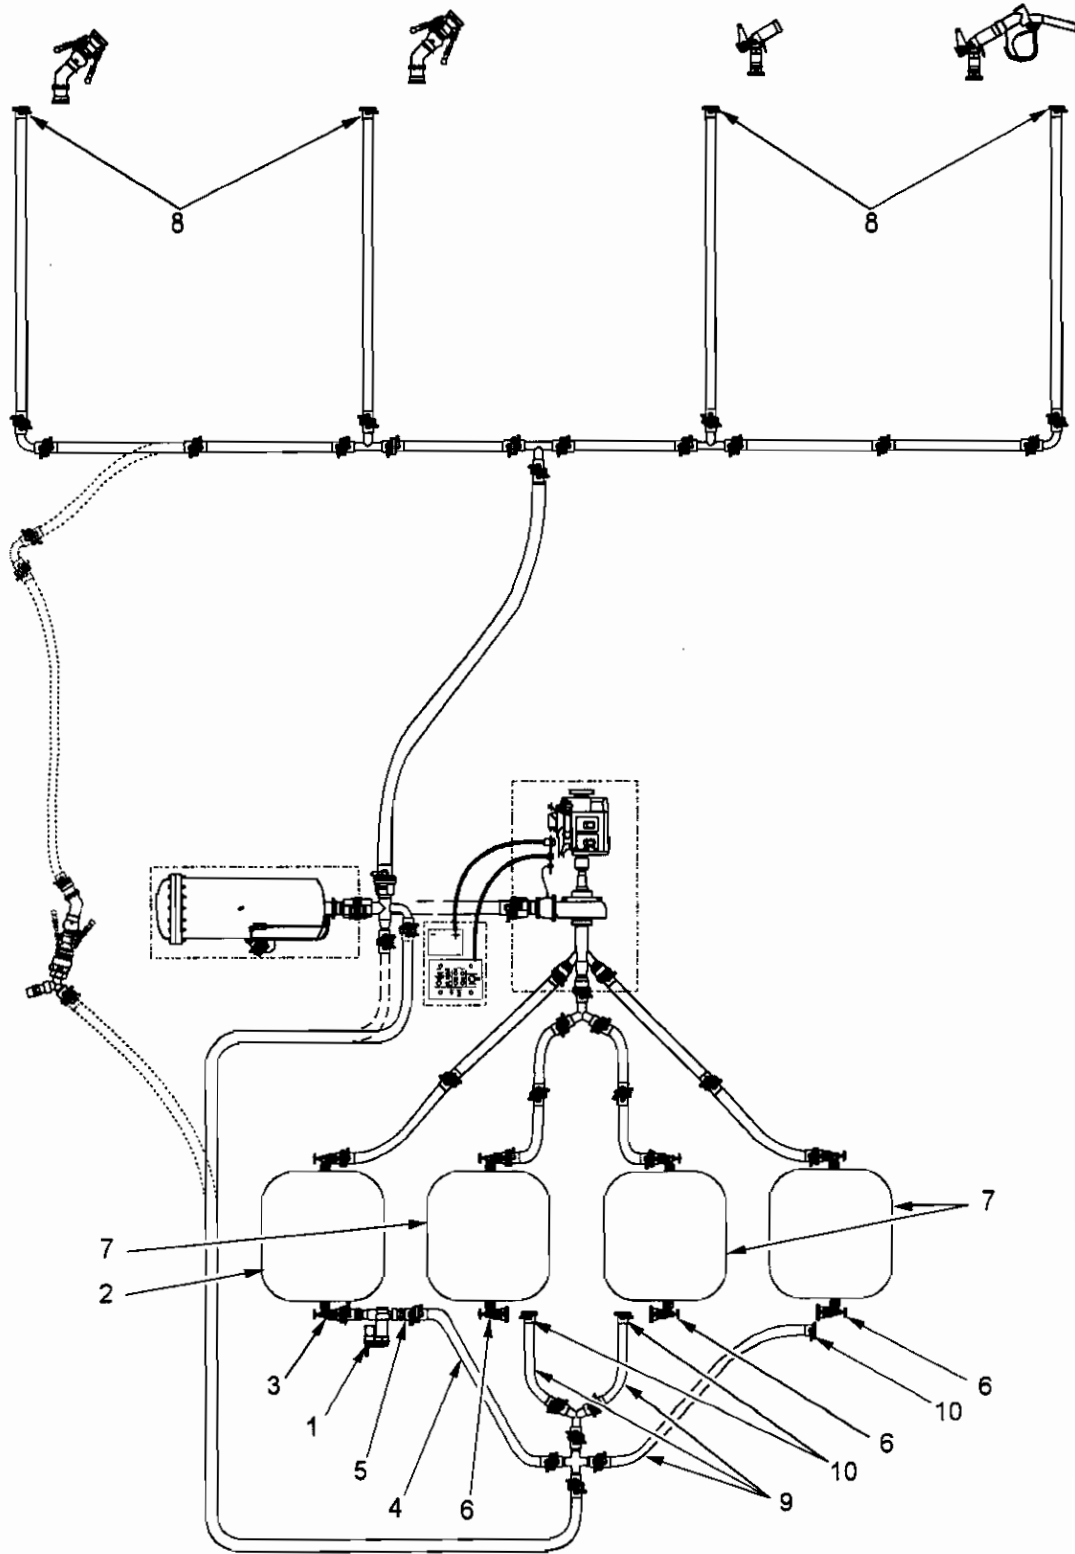

Figure 2-26. Defueling System Fuel Hoses
- (3) Disconnect one of the suction hoses (5) from fuel transfer pump (1) inlet for use in next step.
- (4) Connect suction hose (17) removed from fuel transfer pump (1) inlet to the defueling unisex coupling (18) and the unisex coupling (19) on the flow side of the auxiliary pump (20). Open unisex coupling valves.
- (5) Connect discharge hose (10) to auxiliary pump (20) and open unisex coupling valves.
- (6) Connect auxiliary power cable to auxiliary pump (20).
- (7) Open liquid fuel filter-separator (14) manual vent valve.
- (8) Turn on auxiliary pump (20) to pump down liquid fuel filter-separator (14) and 3 in. x 6 ft discharge hose (21) from fuel transfer pump (1).
- (9) Close liquid fuel filter-separator (14) inlet valve and manual vent valve when air is seen in the sight gauge.
- (10) Turn off auxiliary pump (20), and close auxiliary pump unisex inlet and outlet valves.
- (11) Disconnect discharge hose (10) from auxiliary pump (20) and connect to recirculation manifold full flow unisex coupling (11).
- (12) Disconnect suction hose (17) from auxiliary pump (20) and liquid fuel filter-separator (14).
- e. Defuel system fuel hoses. (Refer to figure 2-26.)